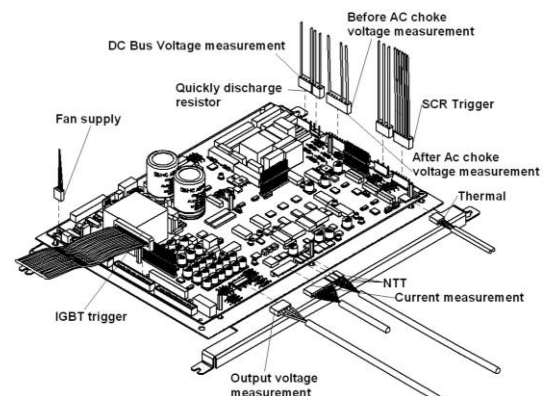

Figure 7.1.7. Disconnect all connected wires from power board
See the figure 7.1.7 while reading the following instructions:
- 7) Connect the cables to the corresponding connectors (see figure 7.1.7).
Before proceeding, it is necessary to remove the embellishers (see section 7.1.1), the tray where control and power boards are inserted (see figure 7.1.7), the gate drive board (see section 7.1.7), the connections board (see section 7.1.9).
Before removing the power connections board, you should remove the embellishers (see section 7.1.1), the tray where the control and power boards are inserted (see figure 7.1.7) and the gate drive board (see section 7.1.17).
In order to remove the single-phase choke, you should remove the embellishers (see section 7.1.1) and the tray for the boards (see figure 7.1.7) before.
It is necessary to remove the embellishers (see section 7.1.1), the tray for the boards (see figure 7.1.7) and separate the top of the chassis from the bottom (follow the steps described in section 7.1.9 and 7.1.10)
In order to remove the heatsink, first, you should remove the embellishers (see section 7.1.1), the tray for the boards (see figure 7.1.7), the gate drive board (see section 7.1.7), the DC bus (see section 7.1.8) and the power connections board (see section 7.1.9), and separate the top of the chassis from the bottom (follow the steps of sections 7.1.9 and 7.1.10).